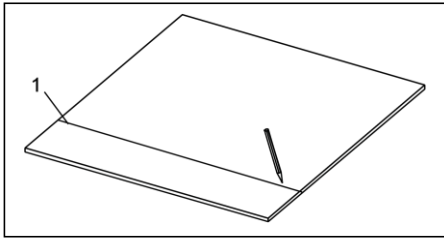

Fig. 13
2. Mark the cut line (1) on the workpiece (Fig. 13).